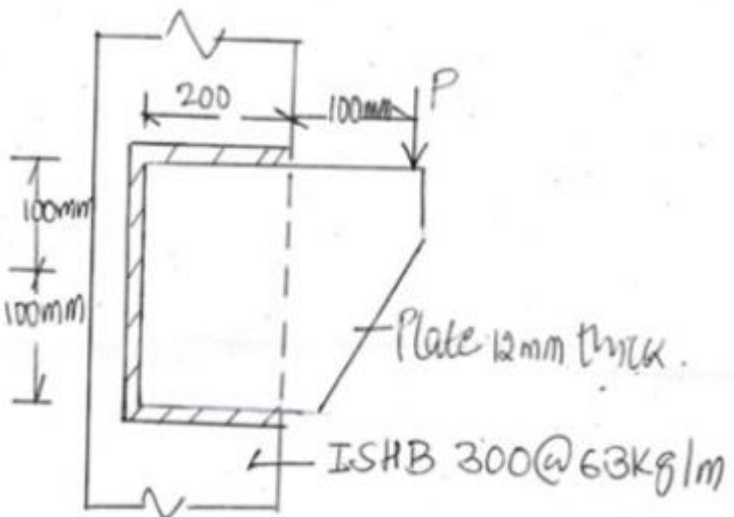

Fig Q.4b
- b) Evaluate the working load that can be resisted by the eccentric welded connection shown in fig Q.4b. Assume 8mm size fillet shop weld.